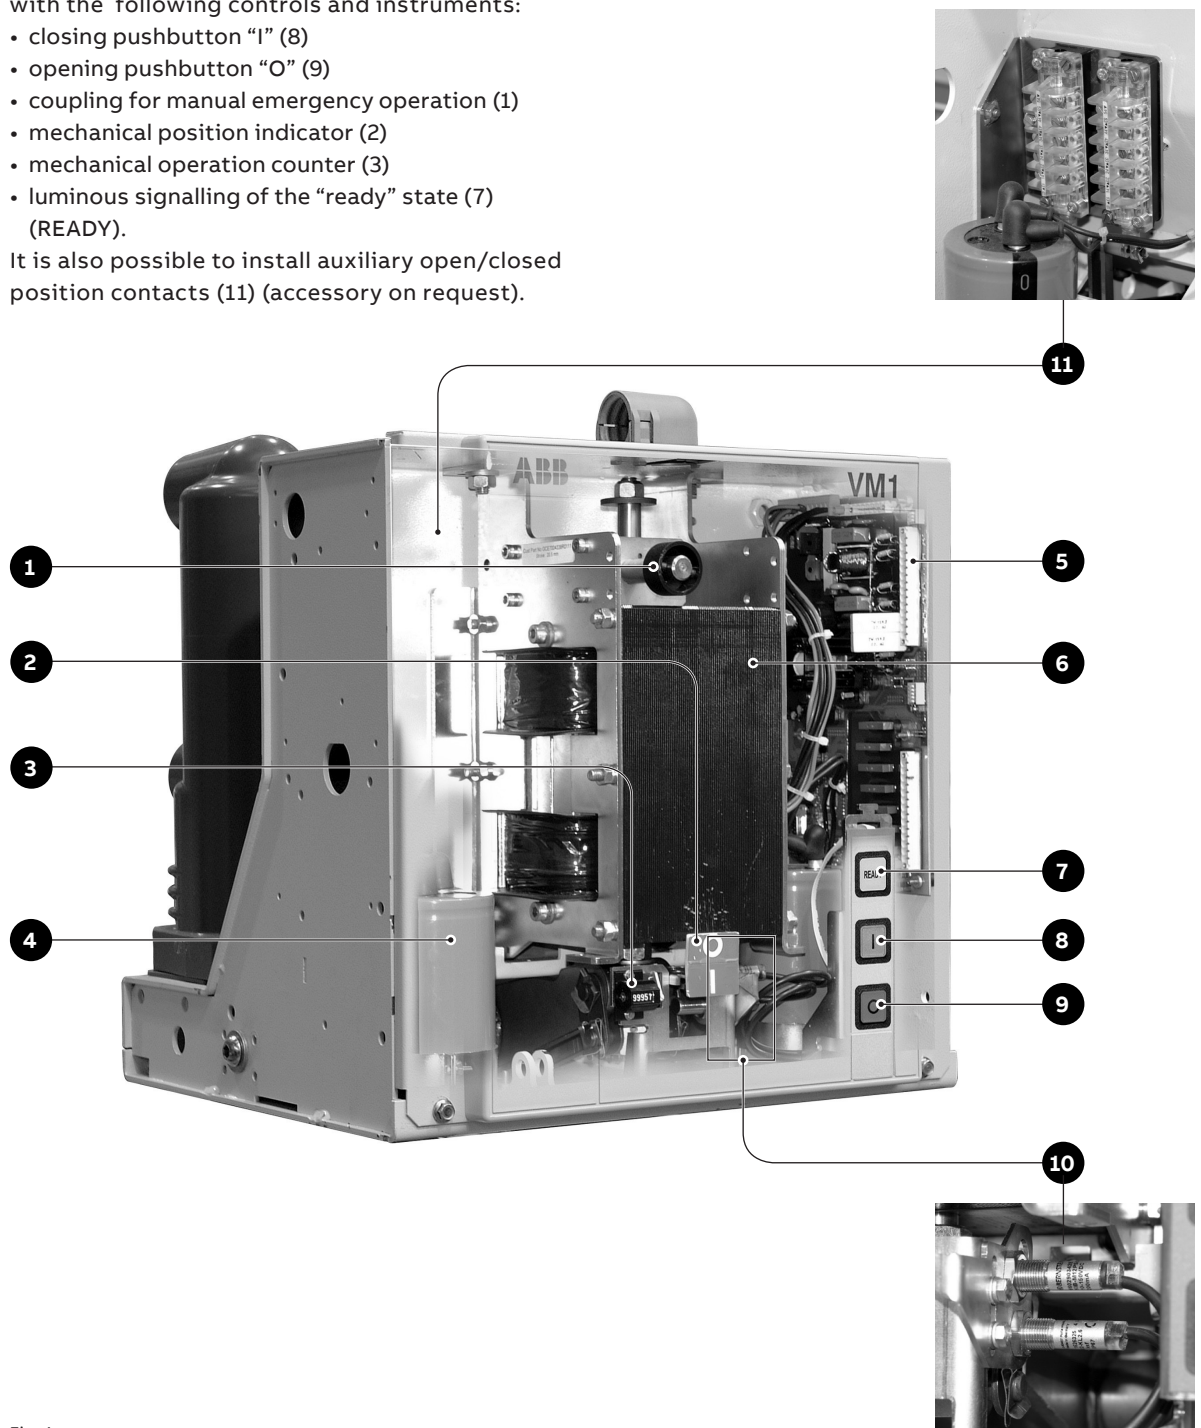

Fig. 4
The drive is of the magnetic type and basically consists of the magnetic actuator (6) (fig. 4), the control module (5), the sensors (10), the capacitor/s (4) and the kinematics which transmit the movement to the circuit breaker poles.
The opening and closing operations can either be remotely controlled by means of the special inputs provided in the control module, or locally by pressing the pushbuttons (8 - 9) (fig. 4).